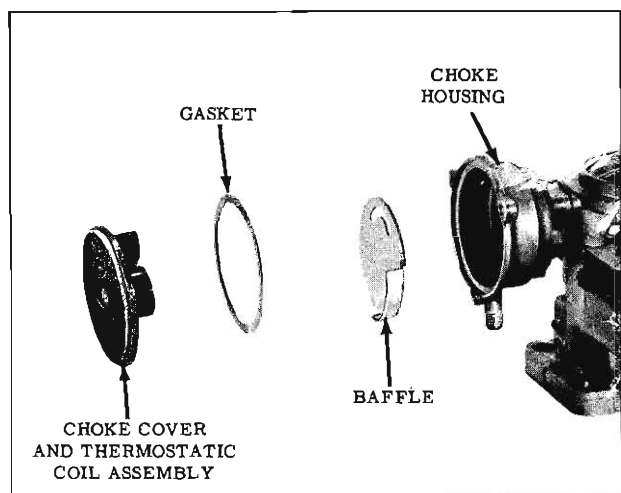

Fig. 4-129 Choke Thermostat Assembly
3. Remove three thermostat cover retaining screws and then remove the thermostat cover coil assembly, gasket and inside baffle plate. (Fig. 4-129)